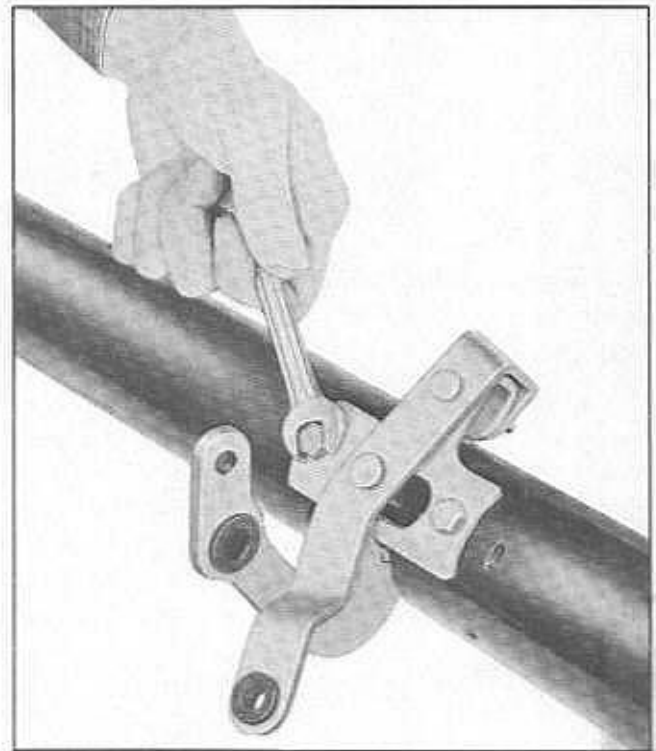

Fig. 7-8 Lower Gearshift Lever
13. On Synchro-Mesh cars remove gearshift selector lever and bracket by removing two retaining screws (Fig. 7-8). When selector lever and bracket assembly have been removed, pivot pin can be pulled out to disassemble lever from bracket.